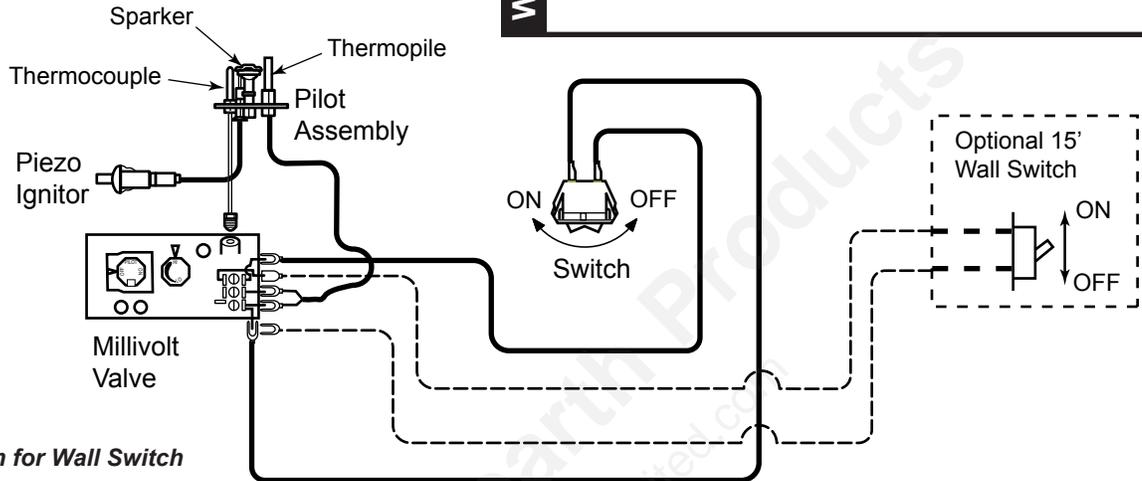

Figure 39 - Wiring Diagram for Wall Switch
A remote wall switch and up to fifteen (15) feet of 18 Ga. wire may be used with this appliance. Attach the wall switch in a junction box at the desired location on the wall. *Figure 39*. Do not extend beyond the wall switch wire length provided.